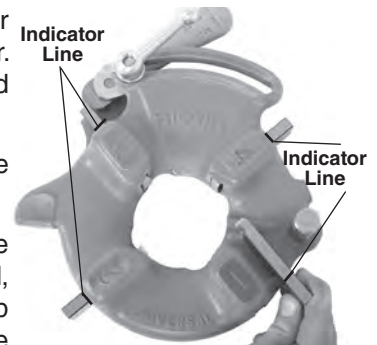

Figure 8 – Inserting Dies
4. Lift tongue of washer out of slot in size bar. Move washer to end of slot (Figure 8).
- of the die head (see Figure 8). Numbers on the dies must correspond with those on the die head slots. Always change dies as sets – do not mix dies from different sets.